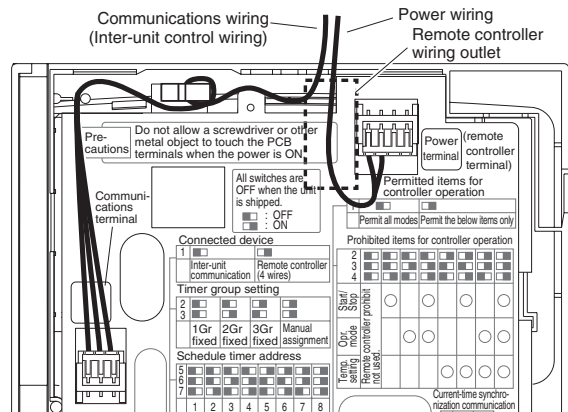

Fig. 3-46
- Check that the schedule timer communications wiring and power wiring are connected correctly. (Fig. 3-46)